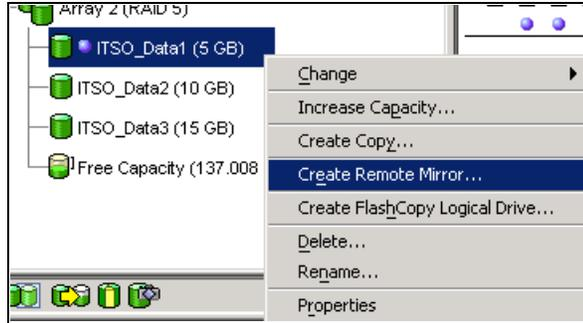

Figure 8-27 Select primary logical drive from logical view
1. Select a logical drive in the logical view of the designated primary storage system and then select the **Logical Drive** → **Remote Mirroring** → **Create** pull-down menu option or select **Create Remote Mirror** from the right-mouse pop-up menu (Figure 8-27).